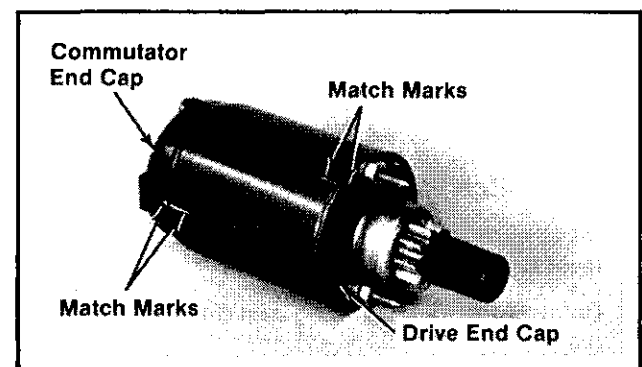

Figure 8-23. Starter Assembly Match Marks
2. Install the thrust washer and drive end cap. Make sure the match marks on end cap and frame are aligned. Refer to Figure 8-23.
5. Make sure the match marks on end cap and frame are aligned. Refer to Figure 8-23. Install the thru bolts and temporary nuts to keep the starter assembled.